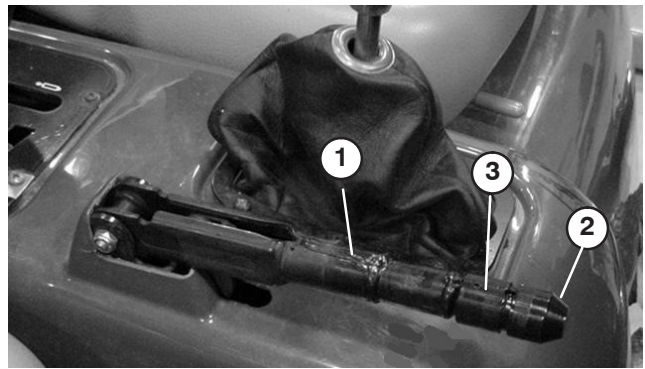

Figure 67
2. Loosen set screw securing knob to parking brake lever (Fig. 67).